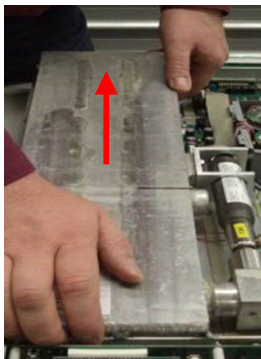

Fig. 52: Pulling out the tank
12. ➤ Lift up the tank in the rear section and carefully pull it out towards the rear (Fig. 52).